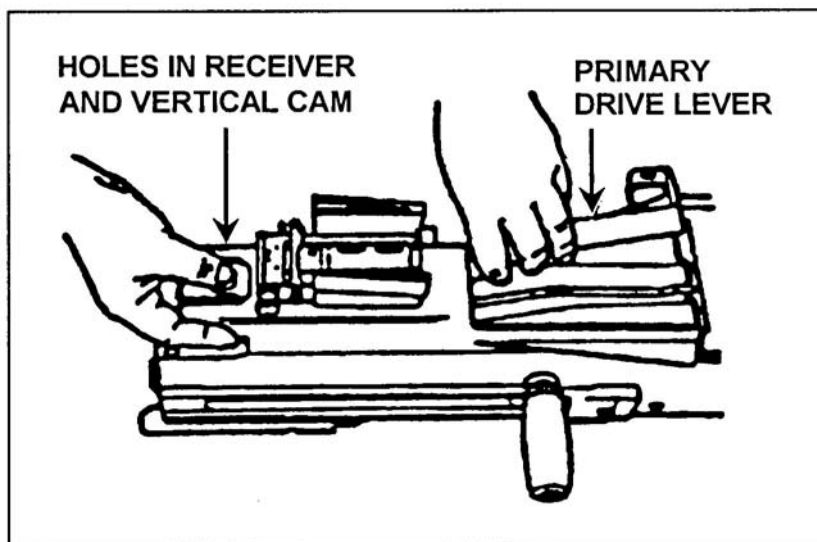

Figure 23. Engagement the primary drive lever.
- (1) Slide the vertical cam assembly through the rear of the receiver. The raised portion should slide over the top of the receiver. The drive lever lock should be underneath.
- (2) Engage the forked end in the notch.
- i. Engage the primary lever (Figure 23).